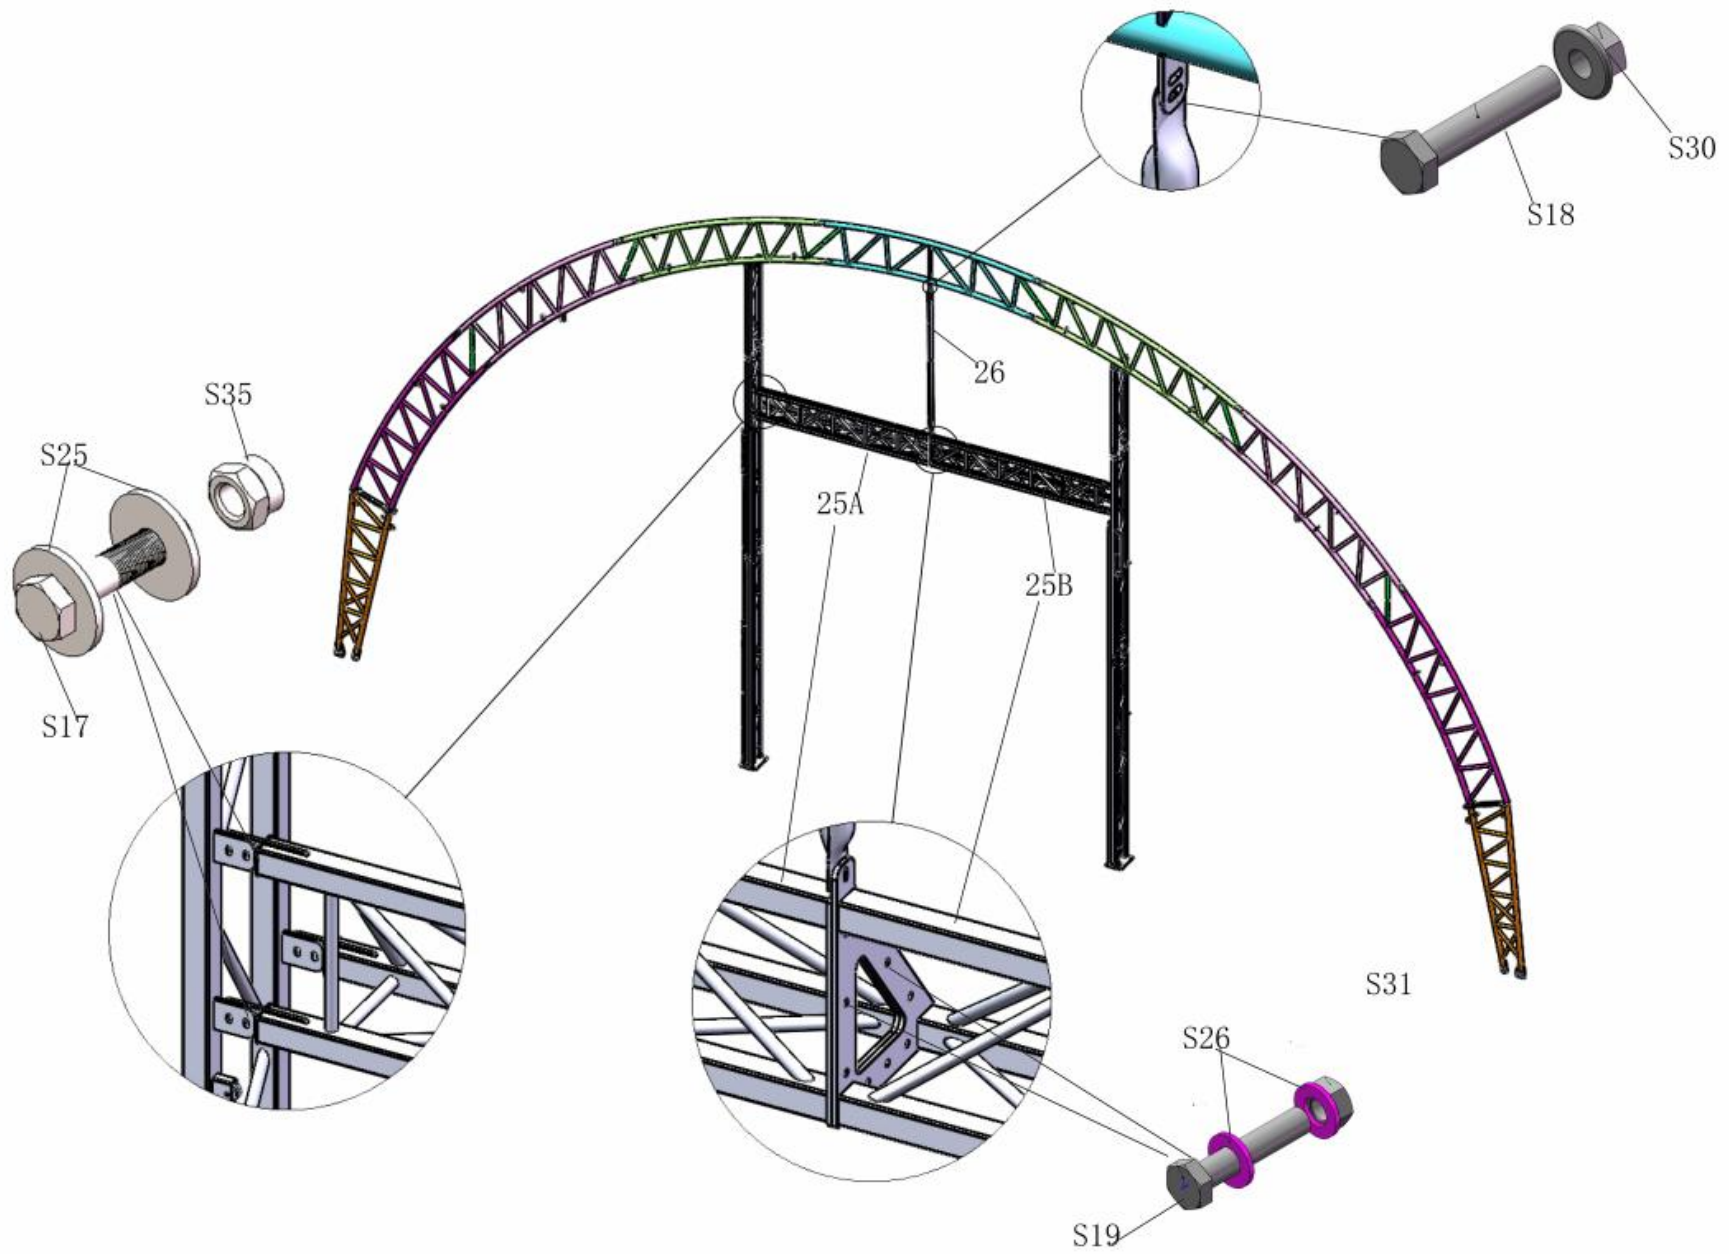

Figure 7
2. Fix Vertical support tube for mechanical door beam(No.26) on Top roof tube in the front and back door (No.1A) and install the Door beam on mechanical door at left (No.25A) and connect the Door beam on mechanical door at right (No.25B) by No.S19 as figure 7 shows.